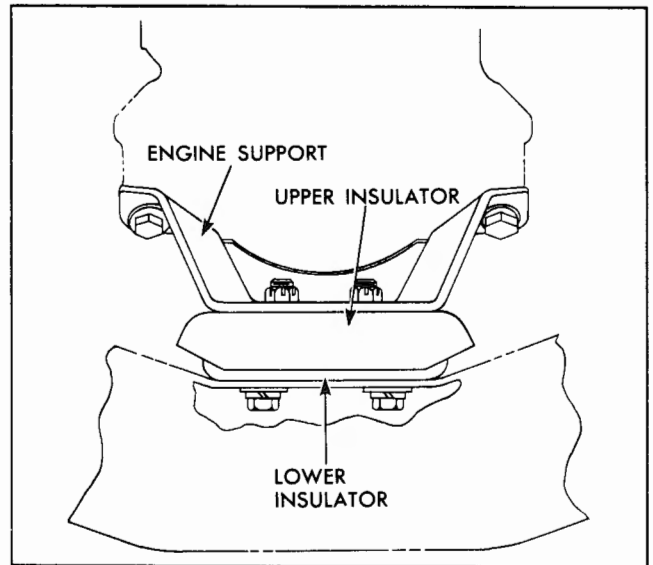

Fig. 6-22 Engine Front Insulator Mounting
2. Remove screws fastening engine support to timing chain cover (Fig. 6-22).
12. Remove screws and lockwashers which fasten front engine support to timing chain cover (Fig. 6-22).